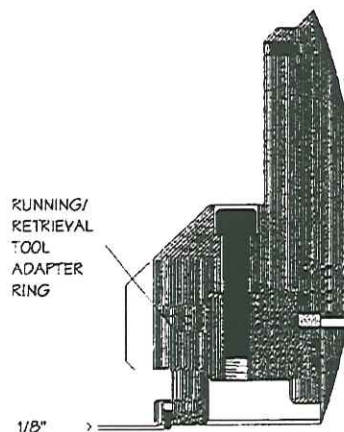

Figure 6. Indicator screw
6. Inspect the three threaded lead indicator screws on the bottom of the adapter ring. The indicator screws are used to verify the adapter ring on the tool made contact with the actuator ring on the Lockdown Sleeve during the lockdown sequence. Refer to **Figure 6**.